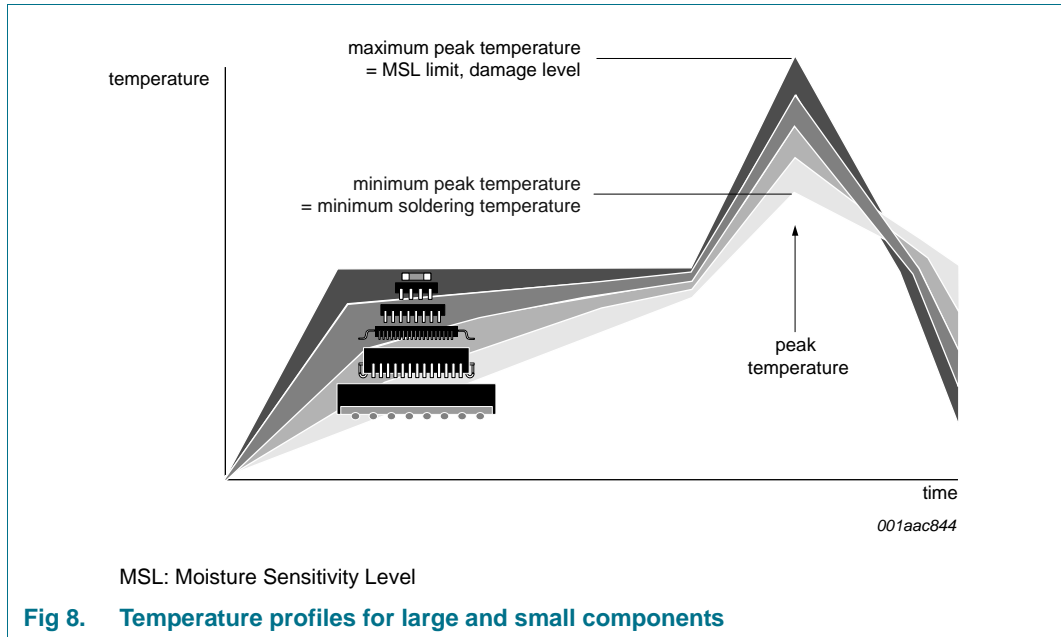

Fig 8. Temperature profiles for large and small components
- Lead-free versus SnPb soldering; note that a lead-free reflow process usually leads to higher minimum peak temperatures (see Figure 8) than a SnPb process, thus reducing the process window
Studies have shown that small packages reach higher temperatures during reflow soldering, see Figure 8.